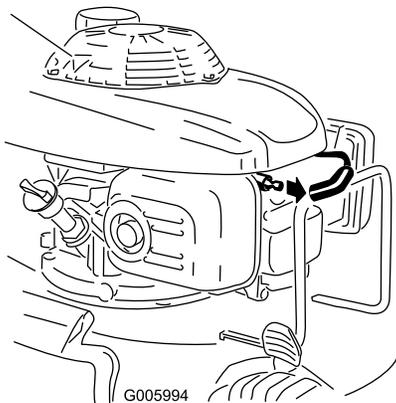

Figure 33
2. Disconnect the spark plug wire from the spark plug (Figure 33) before performing any maintenance procedure.
2. Disconnect the wire from the spark plug (Figure 33).